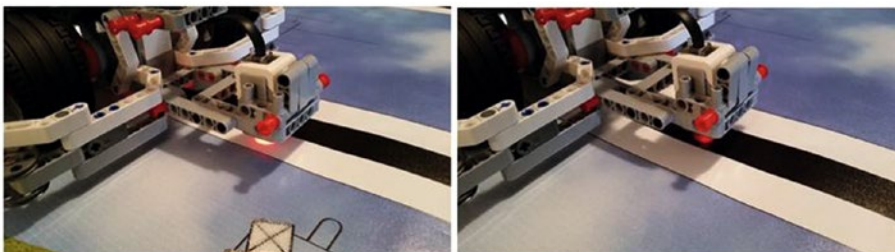

Figure 5-4. Calibrating the DemoBot Color Sensor over a light area (left) then over a black line (right)
1. Hold the robot's Color Sensor over a light area of the field (on a white or very light color), as shown in the left-hand side of Figure 5-4.
4. Move the robot's Color Sensor to a dark area of the field (the darker the better), as shown in the right-hand side of Figure 5-4.